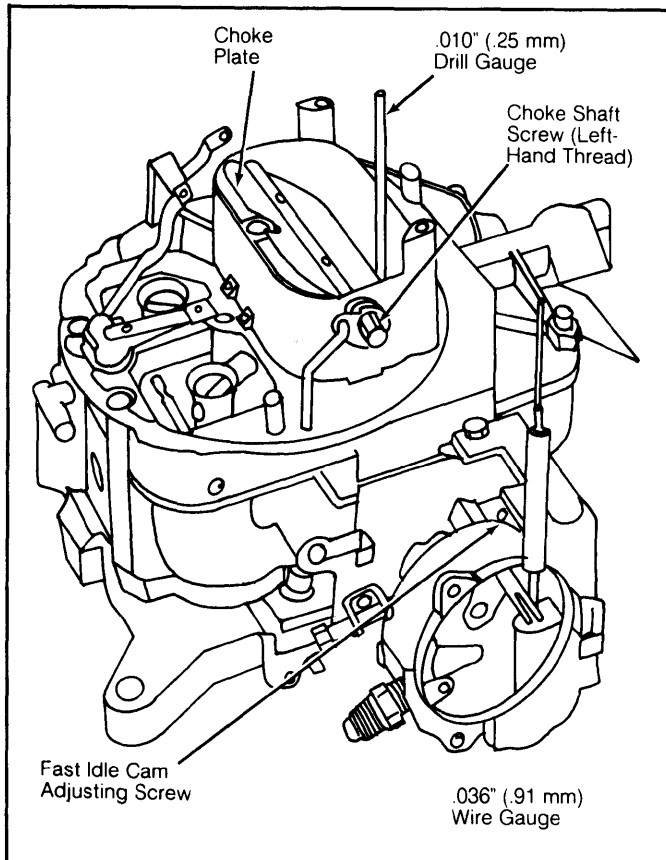

Fig. 4: Choke Plate Pull-Down Adjustment
- 3) Use gauge or drill of correct size to check clearance between lower edge of choke valve and air horn wall. See Fig. 4. If adjustment is necessary, loosen hex head screw (left-hand thread) on choke valve shaft and pry link away from tapered choke shaft.
- 2) Using a drill or gauge of correct size, check clearance between lower edge of choke valve and air horn wall. If fast idle cam clearance not correct, adjust by turning fast idle cam adjusting screw in or out as necessary. See Fig. 4.